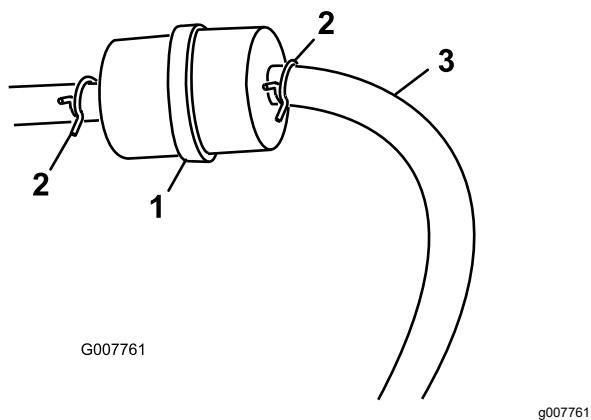

Figure 27
3. Squeeze the ends of the hose clamps together and slide them away from the filter (Figure 27).
5. Install a new filter and move the hose clamps close to the filter (Figure 27).
3. Loosen the hose clamp at the fuel filter and slide it up the fuel line away from the fuel filter (Figure 27).
4. Disconnect the fuel line from the fuel filter (Figure 27).
**Note:** Allow fuel to drain into a fuel container can or drain pan (Figure 27).
5. Install the fuel line onto the fuel filter. Slide the hose clamp close to the fuel filter to secure the fuel line (Figure 27).